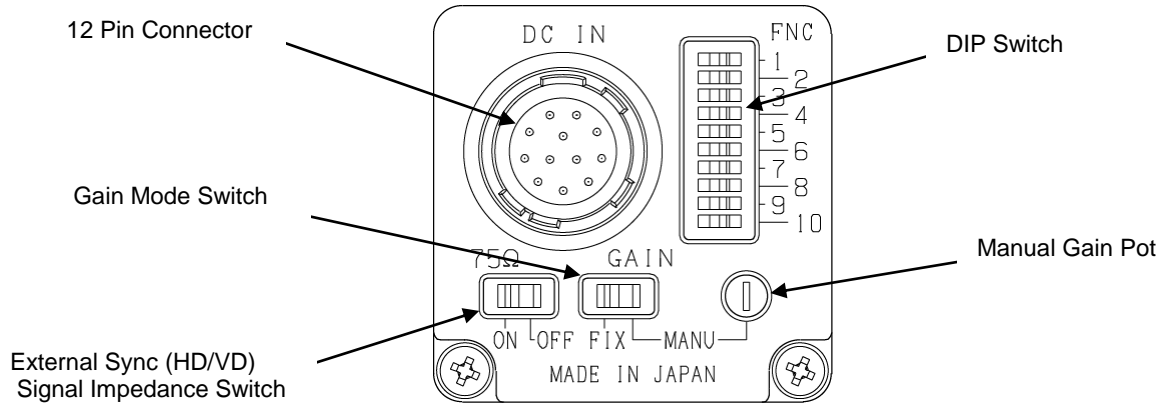

Figure 1
2. DIP Switch Settings (Refer to Dip Switch in Figure 1)
3. External Sync. (HD/VD) signal impedance setting (See **External Sync** in **Figure 1**)
4. Gain Mode Setting (See **Gain Mode Switch** in **Fig. 1**)
The gain can be adjustable by the manual gain pot (See **Manual Gain Pot** in **Fig. 1**).